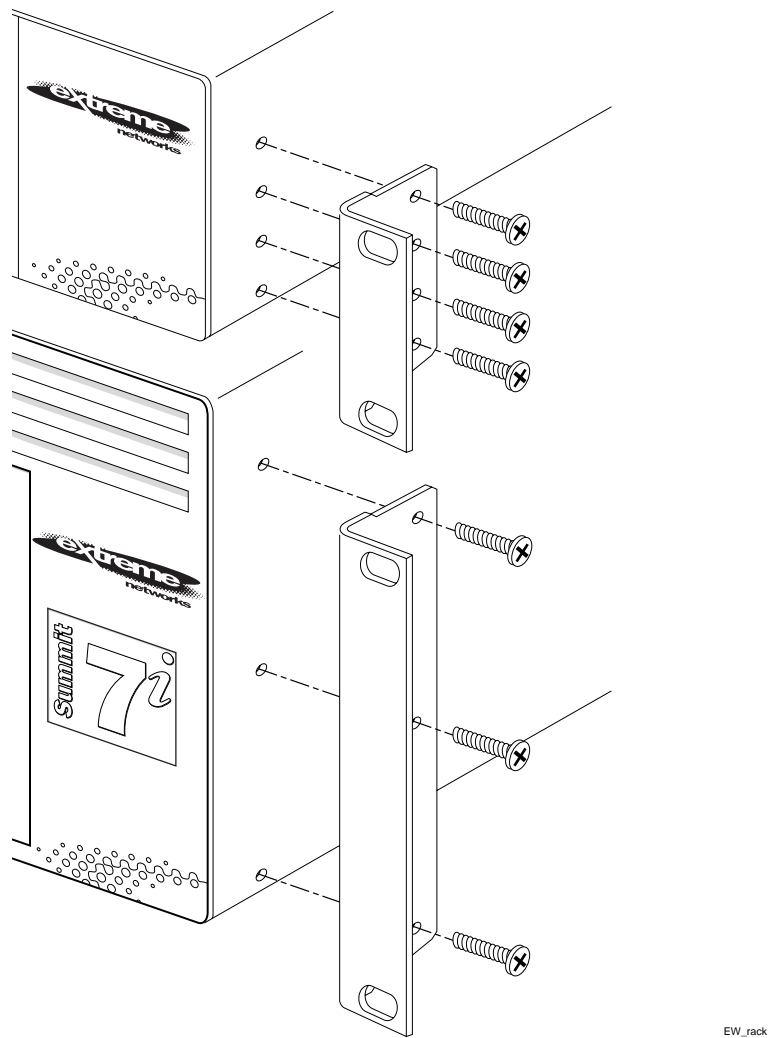

Figure 2-2: Fitting the mounting bracket
- 5 Insert the screws and fully tighten with a suitable screwdriver, as shown in Figure 2-2.